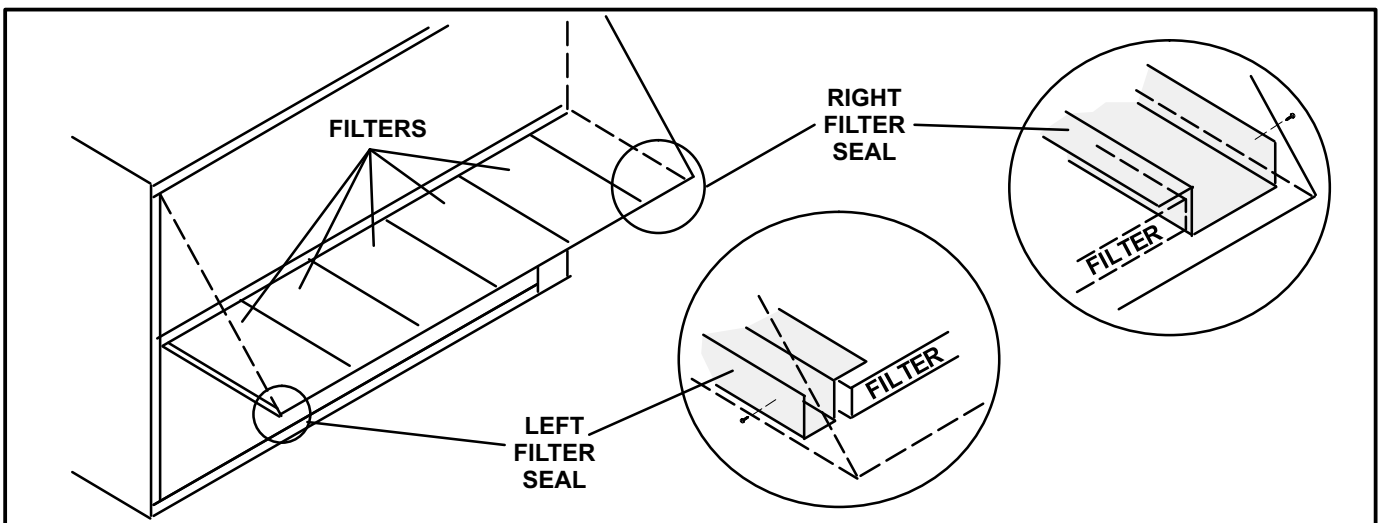

FIGURE 17
- 7- Secure side seals to the hood sides as shown in figure 17.